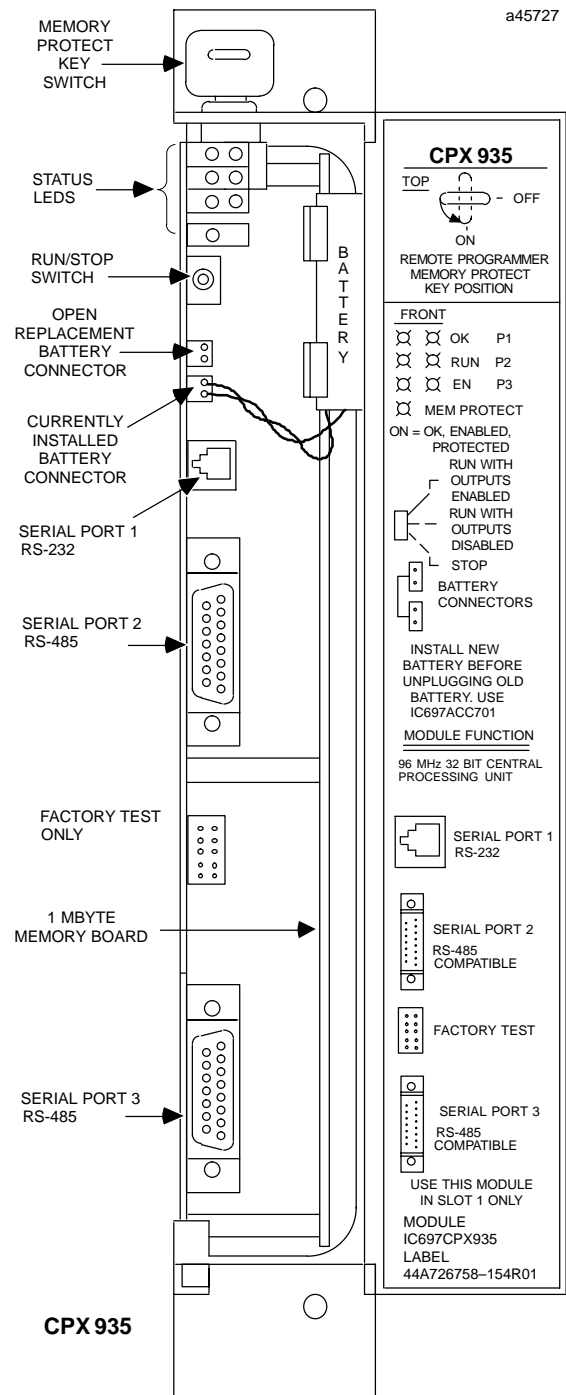

Figure 2. CPX 935 - Location of Major Features
- Connect the battery to either of the battery connectors on the module (see Figure 2).
A lithium battery (IC697ACC701) is installed as shown in Figure 2. This battery maintains program and data memory when power is removed and operates the calendar clock. Be sure to install the new battery before removing the old battery. Specific indication of a low battery state is detailed in the applicable *Programmable Controller Reference Manual*.